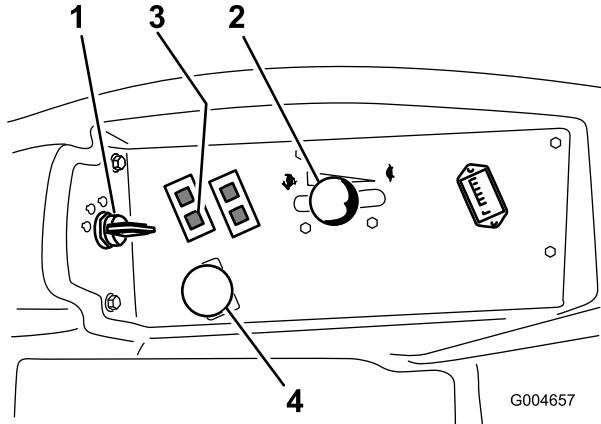

Figure 15
4. Move the PTO (power take-off) switch to the off position (Figure 15).
- Move the throttle lever midway between the Fast and Slow positions (Figure 15).